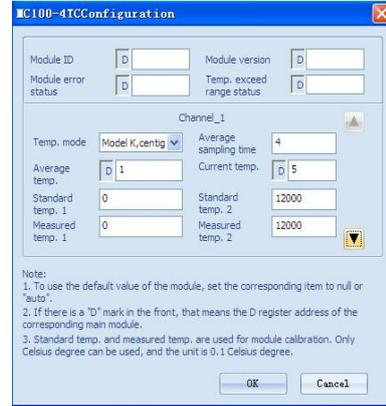
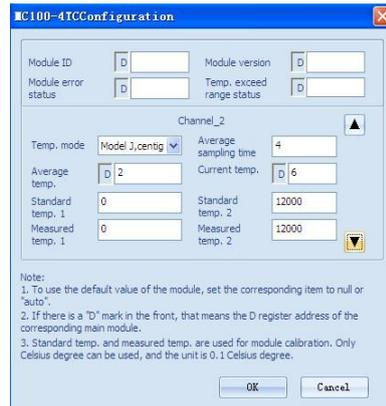

Figure 4-1 CH1 setting interface
Figure 4-2 CH2 setting interface
9. BFM#4094: software version information, displayed automatically as **Module Version** in **MC100-2TC/4TC Configuration** dialogue box of the host software, as shown in Figure 4-1.
The setting interface of output CH1 is shown in Figure 4-1. After the setting, click the downward arrow button → to continue to set CH 2 ~ CH4, whose setting interfaces are shown in figures 4-2 ~ 4-4. For detailed software usage, see *MC200/100 Series PLC Programming Manual*.